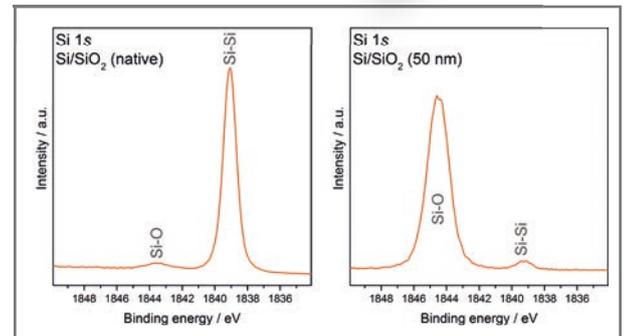

Fig. 1: Si 1s spectra from native silicon with one monolayer of SiO_2 compared to spectra of silicon with 50 nm SiO_2 . Measurement time is less than 8 minutes.
Using hard X-rays as ionization source enables far greater penetration depth than traditional X-ray photoelectron spectroscopy (XPS), thus allowing for studies of true bulk material features. The bottom right spectrum of Fig. 1 shows a
The DA20 is the most recent addition to our hemispherical analyser product line. It provides state-of-the-art ARPES as well as XPS and UPS while maintaining a compact foot-print. The DA20 includes the ground-breaking and patented deflection technology that was previously only available in the larger DA30-L (see Fig. 1) enabling full cone ARPES measurements without sample rotation.
Fig. 1: DA20 analyser with redesigned lens system including two deflector elements (red). The deflection capability allows for $\pm 10^\circ$ full cone measurements.
Figure 1 demonstrates how this technique was used to separately detect majority and minority spin-states in a thin cobalt film (grown on Cu (001)) to study the non-local origin of electron correlations in magnetic materials and to improve the knowledge about magnetism itself.
Fig.1 shows an example of a high-resolution large area scan on NaCl. QSpeed AFM incorporates TO AFM [8] and is now available with MATRIX 4 using Zurich Instruments powered PLL AFM controller making QPlus faster and easier - a new workhorse scan technique for everyone!
Figure 1: QSpeed AFM high resolution large area scan on NaCl (001) showing defect distribution after cleaving. The 1000x1000 points image has been recorded within 50 minutes at N_2 temperatures. The insert shows a digital zoom of the grey marked area.
- [5] Liu et al, ACS Nano 2018 12 (12), 12612–12618